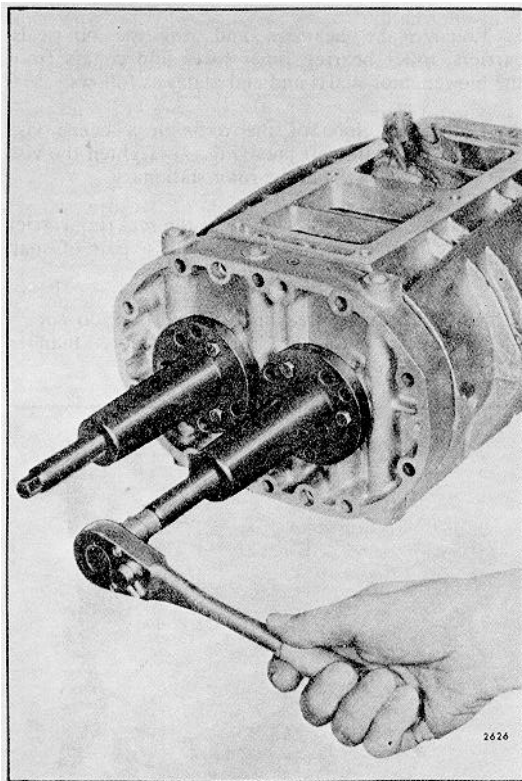

FIG. 5 - Removing Blower End Plate and Bearings from Housing and Rotors with Tool J 6270-31
d. Turn the two puller screws uniformly clockwise and withdraw the end plate and bearings from the blower housing and rotors as shown in Fig. 5.